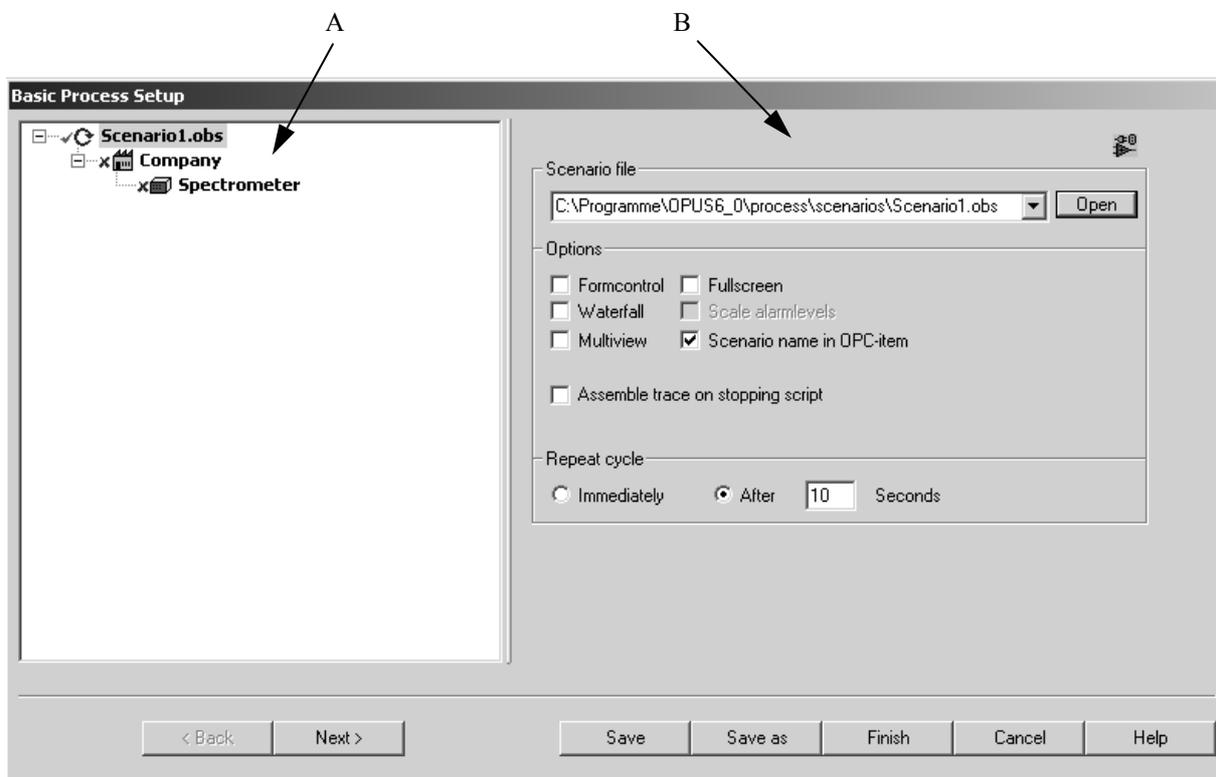

Figure 23: Basic Process Setup
The *Basic Process Setup* dialog consists of a scenario browser window (A in figure 23) and a dialog area (B) which correlate with each other. By default, if no scenario has yet been defined, three scenario levels are displayed in the scenario browser which can be run through by the *Next* button.
Scenario files always get the default name *Scenario\**, are stored as VBScripts and have the extension *\*.obs*. The file name is automatically incremented by the software. To change the file name, click into the *Scenario File* drop-down list (see figure 23), modify the name and store this scenario by clicking on the *Save* button. The drop-down list includes the scenarios recently used. Clicking on the *Open* button allows to load already existing scenarios.